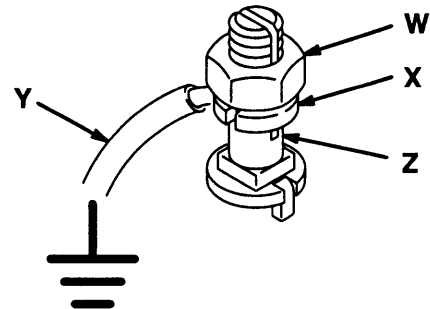

Fig. 1
1. *Pump*: use a ground wire and clamp as shown in Fig. 1.
To ground the pump, loosen the grounding lug locknut (W) and washer (X). Insert one end of a 1.5 mm2 (12 ga) minimum ground wire (Y) into the slot in lug (Z) and tighten the locknut securely. See Fig. 1. Connect the other end of the wire to a true earth ground.